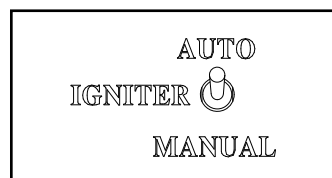
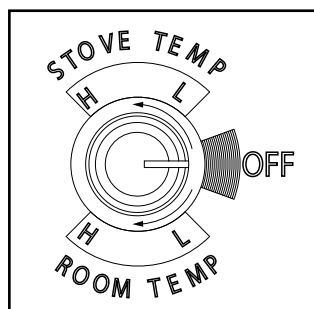

Figure 4.4
Figure 4.5
4. Flip toggle switch to desired mode "auto or manual". Figure 4.4. Set feed adjuster knob to desired setting and turn mode dial to "Room Temp" or "Stove Temp" Figure 4.5.